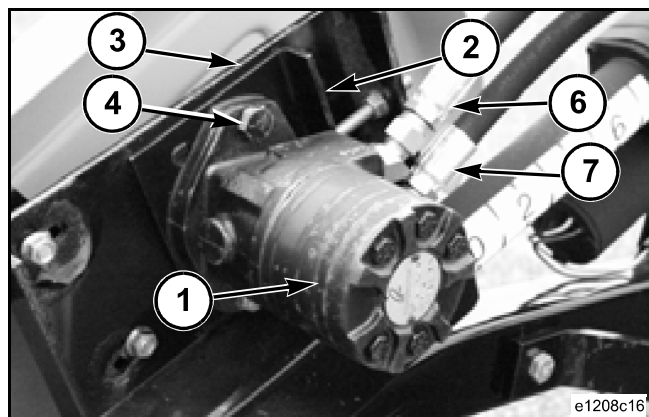

FIG. 193
FIGS. 193–194: Align reel motor (1) and adjusting bracket (2) with reel motor support weldment (3) and install the two 1/2-13 X 1-3/4 inch capscrews (4). Place sensor bracket (5) with sensor against outside of reel motor support weldment (3) onto motor mounting bolts and loosely secure with flange nuts.